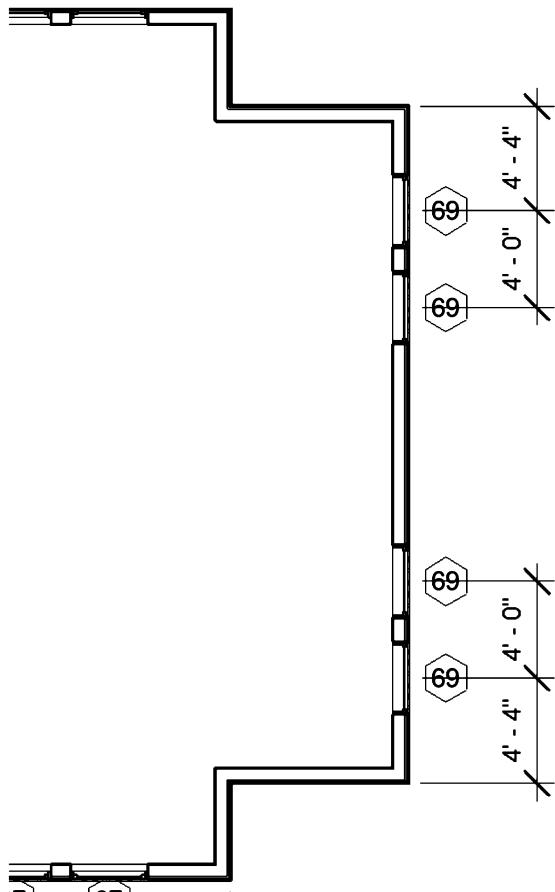

FIGURE 5-4.16
26. Add the windows as dimensioned in Figure 5-4.16.
Notice the *Cut Plane* is set to 4'-0" (Figure 5-4.16). Try changing it to 5'-6" and closing the dialog to see the various effects it has on your *Floor Plan* view; also look at the high windows.